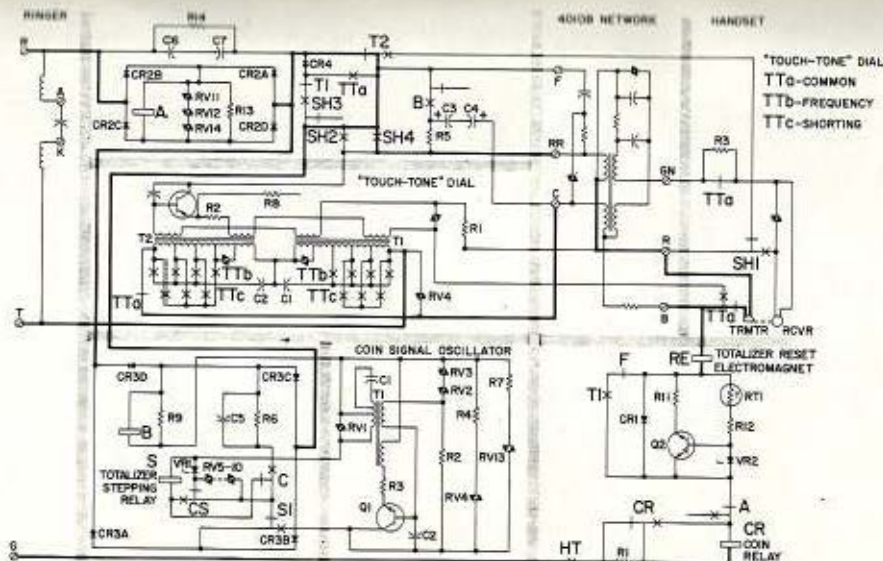

Fig. 29 - 1C2 and 2C2 Dial-Tone-First Coin Telephone Sets, Schematic
- Fig. 29 — 1C2 and 2C2 Dial-Tone First Coin Telephone Sets, Schematic